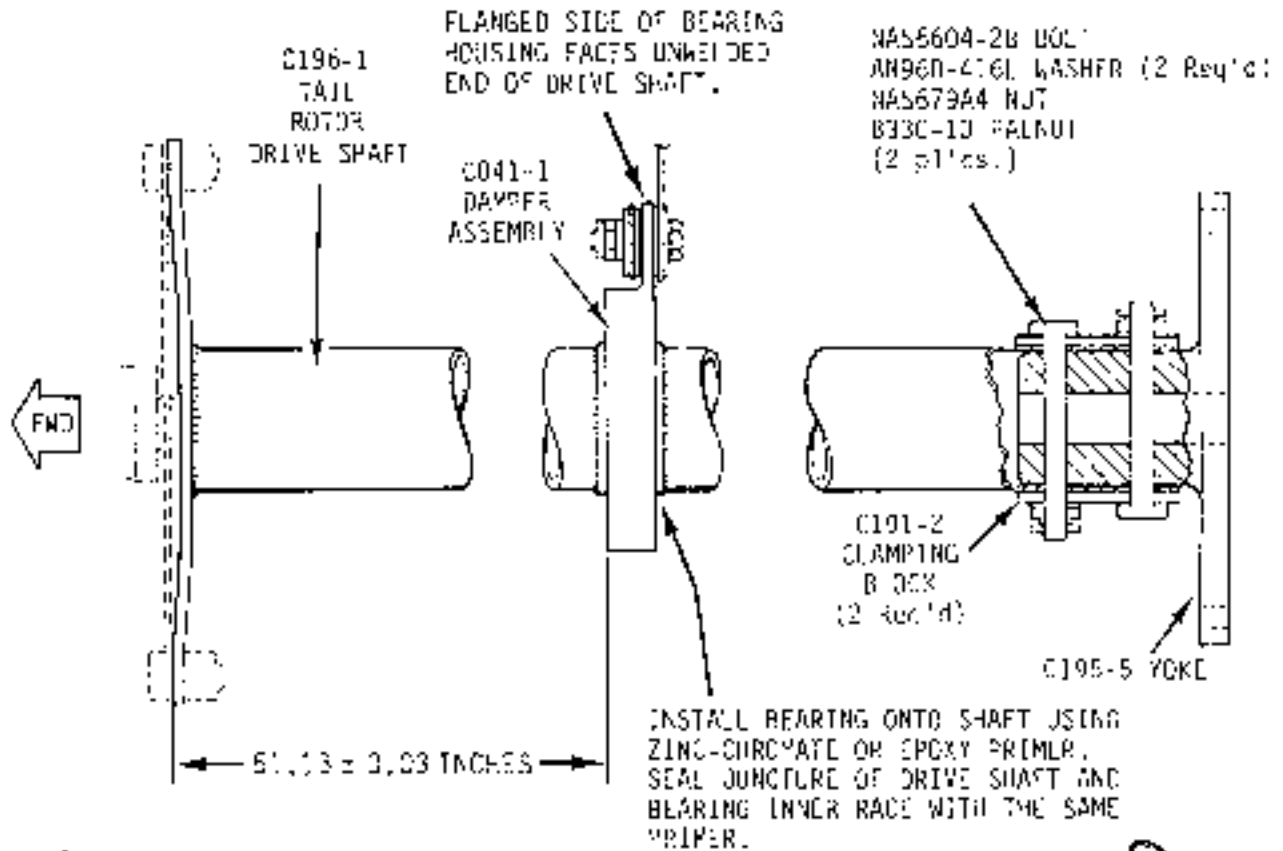

FIGURE 7-12A TAIL ROTOR DRIVE SHAFT
- a) The two-piece tail rotor drive shaft consists of one C196-1 shaft, one C195-5 yoke, one C041-1 damper assembly, two C191-2 clamping blocks and associated hardware. See Figure 7-12A .
- b) The C041-1 damper bearing assembly is field replaceable; refer to Figures 7-12A and 7-12B for appropriate dimensional criteria.